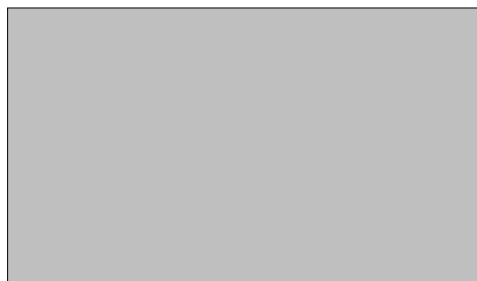

Figure 11 - Control Knob and Ignitor Button location
- Wait five (5) minutes to clear out any gas. Then smell for gas, including near the floor. If you smell gas, STOP! Follow "B" in the safety information, page 2. If you don't smell gas, go to the next step.
- Turn control knob counterclockwise ↻ to the PILOT position. Press in control knob for five seconds (see Figure 11).